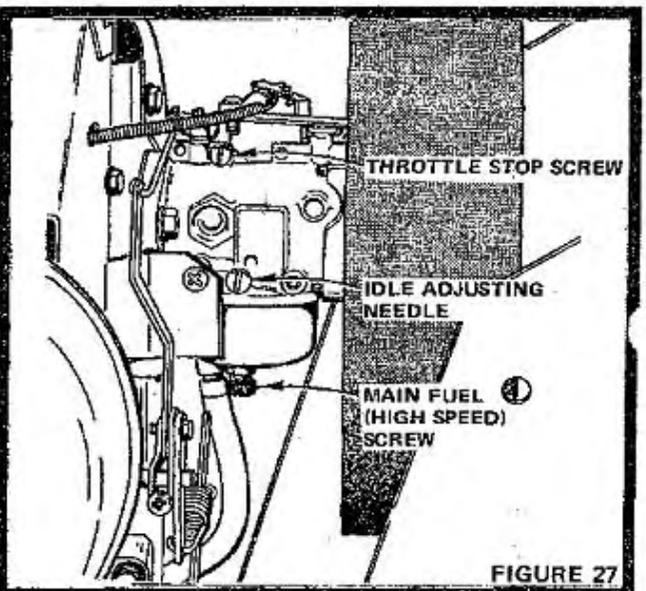

FIGURE 27
- a. Main Fuel (High Speed) Screw (Fig. 27) should not require adjustment. If resetting is necessary, turn clockwise, closing finger tight ONLY, then turn counterclockwise 1 - 1/2 turn.
- b. Turn Idle Adjusting Needle (Fig. 27) clockwise, closing finger tight ONLY, and then turn counterclockwise 1 - 3/8 turns.
- Throttle Stop Screw (Fig. 27) should not require adjustment. If resetting is necessary, set to obtain the slowest engine speed at idle (Throttle Control in "S", slow position) that will allow smooth acceleration.